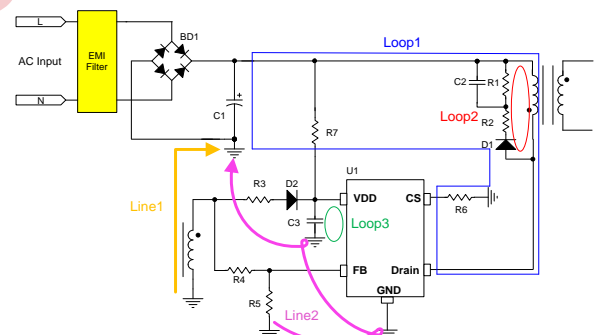

Fig.5
PCB design has a significant impact on the performance of power supply. It is recommended to refer to Figure 5 and Figure 6 when designing primary-side circuit.
4. The ground node of auxiliary winging should be connected directly to the negative node of the bus capacitor (Line1 as shown in Fig.5)
5. VDD capacitor C3 and FB pull-down resistor R5 should be connected directly to the IC GND pin firstly, and then connects them to the negative node of the bus capacitor with a single point (Line2 as shown in Fig.5)